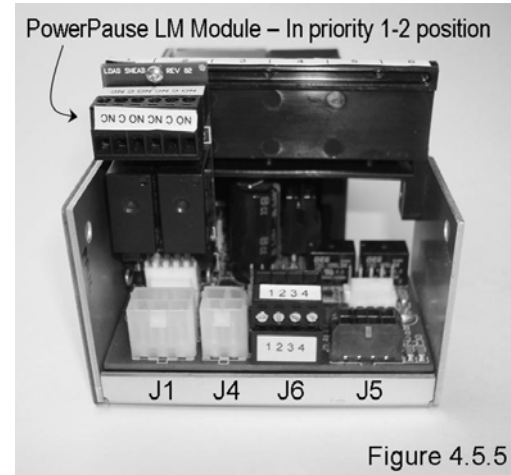

Figure 4.5.5
5. Refer to completed TABLE 3.4 for POWERPAUSE™ LOAD MANAGEMENT CIRCUIT PRIORITY. Note the 1-6 position label on shield edge and three - 5 pin white plugs on Control Module circuit board. The priority of the managed load wired to the PowerPause™ Load Management Module is determined by the location the Module is installed on the control module circuit board, the lower the location #, the higher the priority (1=highest, 6=lowest). Install PowerPause™ Load Management Modules left-to-right, priority location 1-2 first, by inserting a PowerPause™ Load Management Module into left-side 5 pin plug and securing with provided #2x.25 Plastite screw. Repeat for up to 2 additional PowerPause™ Load Management Modules. Do not skip over priority locations: i.e. Use location 1-2 for the first Module, location 3-4 for a second Module and location 5-6 for a third Module. See Figure 4.5.5.